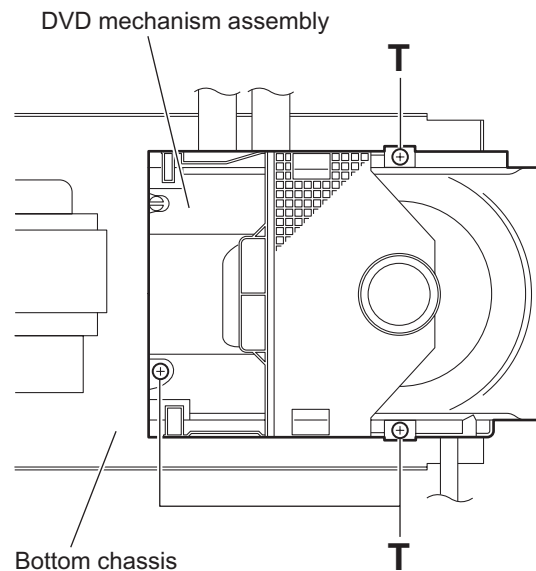

Fig.23
- (2) Take out the shield case with the power amplifier board from the bottom chassis.
- (3) Remove the three screws **T** attaching the DVD mechanism assembly to the bottom chassis. (See Fig.23.)